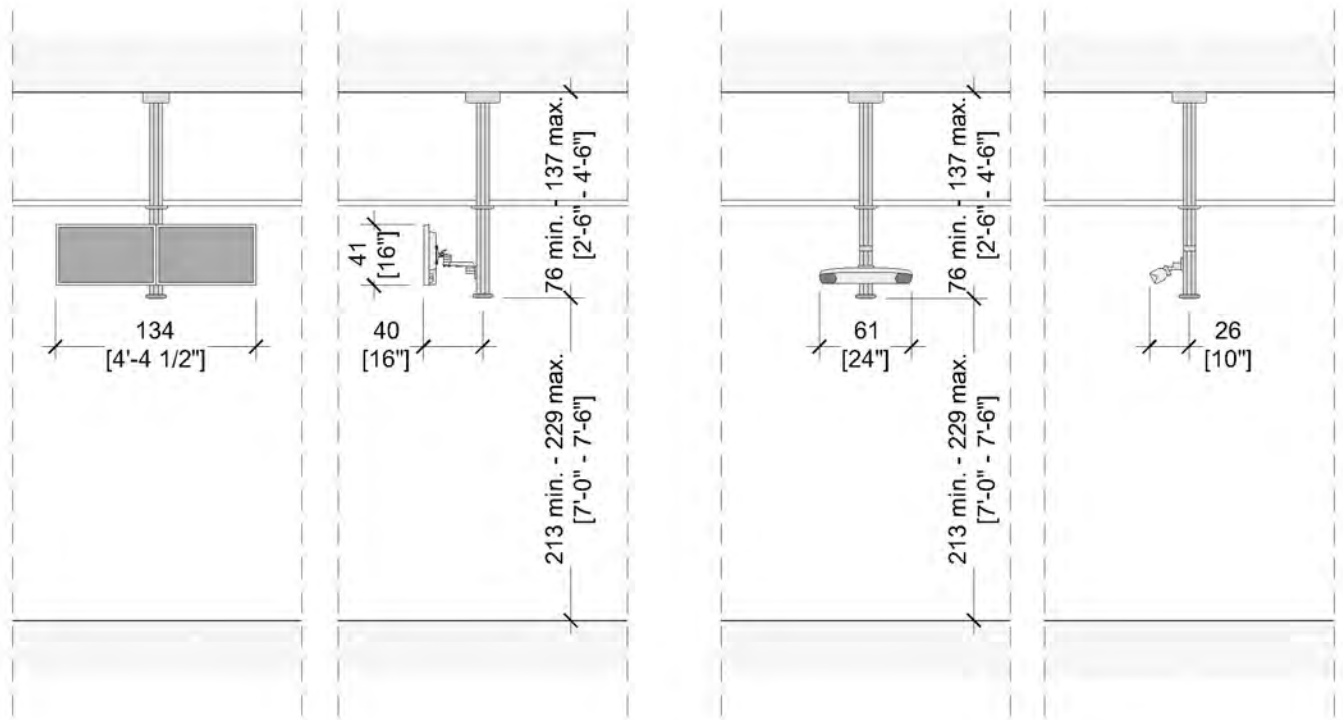

Figure 2-12 IRM and Optical Camera Mounting Heights
- Post length can be configured in 15cm [6"] increments between the minimum and maximum post length, refer to Figure 2-12 IRM and Optical Camera Mounting Heights.